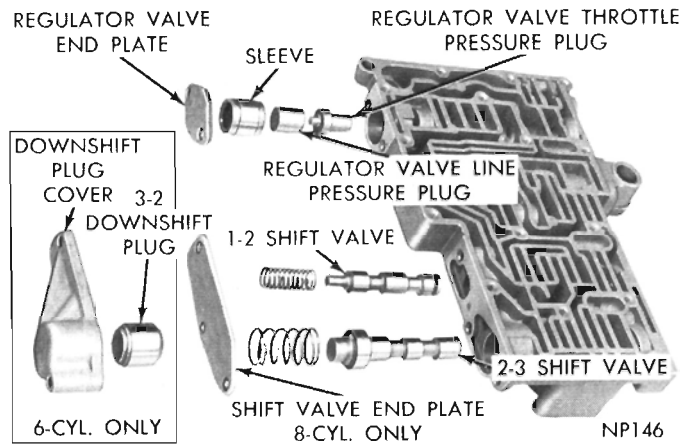

Fig. 55—Valve Body—Shift Valve Side—Disassembled
- (15) Remove shift valve end plate (Fig. 55) and slide out the two springs and valves.
- (16) Remove regulator valve end plate. Slide regulator valve line pressure plug, sleeve, and regulator valve throttle pressure plug out of valve body.
(4) Install 1-2 and 2-3 shift valves and springs (Fig. 55). Install shift valve end plate and tighten the three retaining screws to 28 inch-pounds.
(5) Install regulator valve throttle pressure plug, sleeve, and line pressure plug (Fig. 55). Install regulator valve end plate and tighten the two retaining screws to 28 inch-pounds.